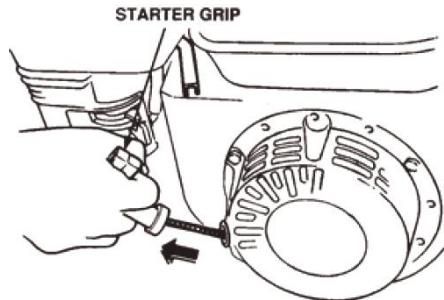

FIG.10
- 9.6 Grasp the starter grip (FIG. 10) and slowly pull it out. The resistance becomes the hardest at a certain position, corresponding to the